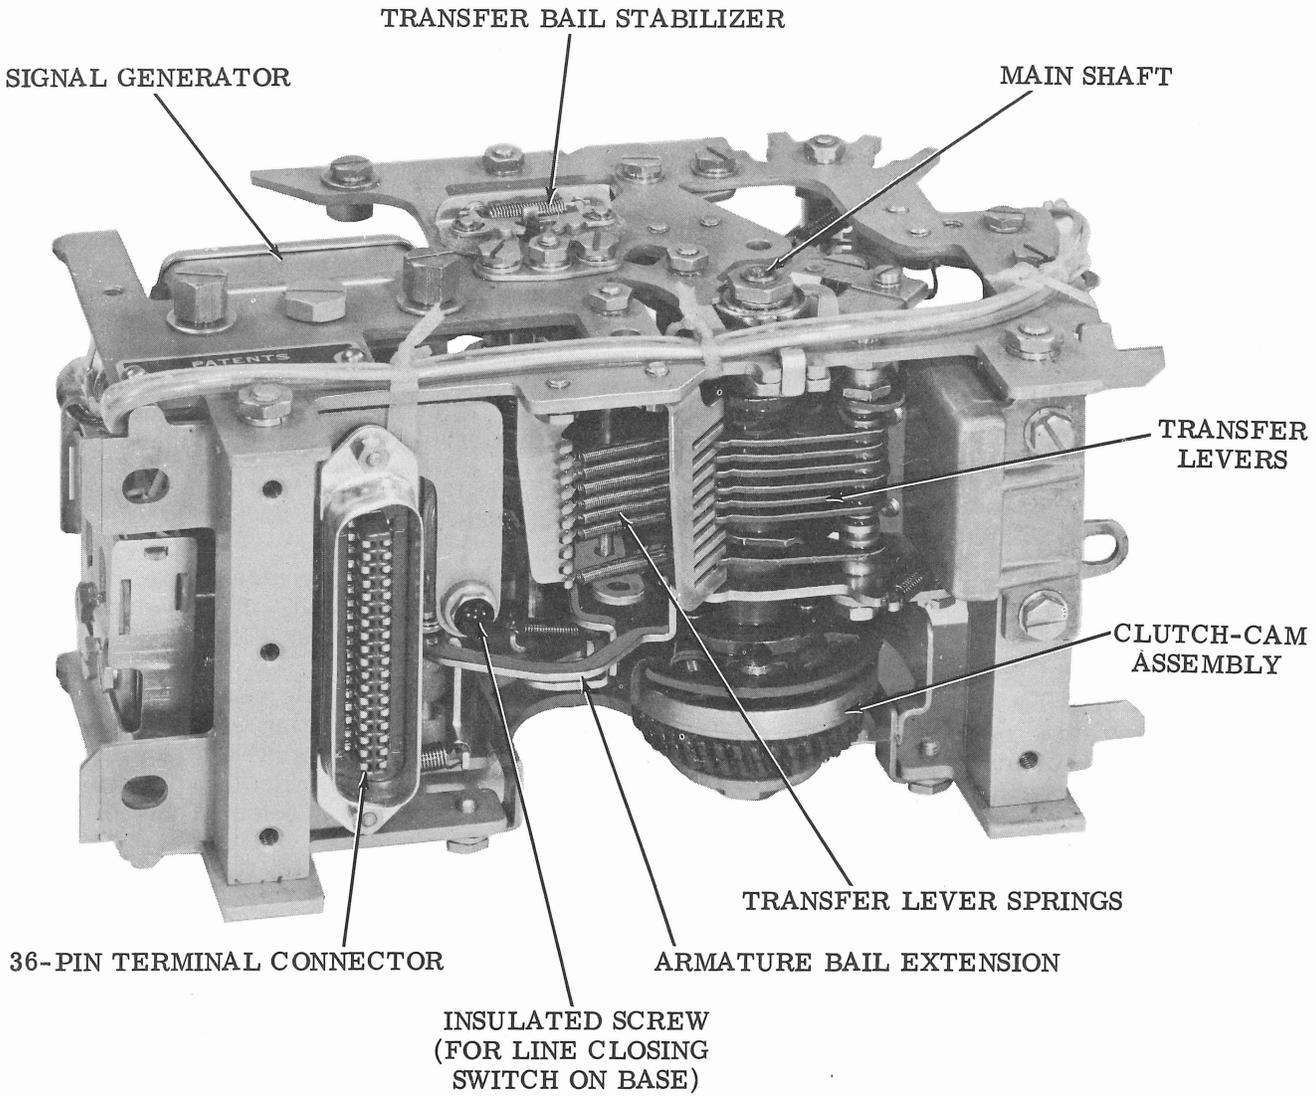

Figure 3 - Transmitter Distributor Unit (Bottom View)
- (e) A quick disconnect 36-pin terminal or plug which aligns with its mate on a base, facilitates making electrical connections (Figure 3).
- (f) A nylon insulated screw is mounted on the connector bracket and adjusted to align with, and actuate the "Line Shunt Switch" on the associated base (Figure 3).